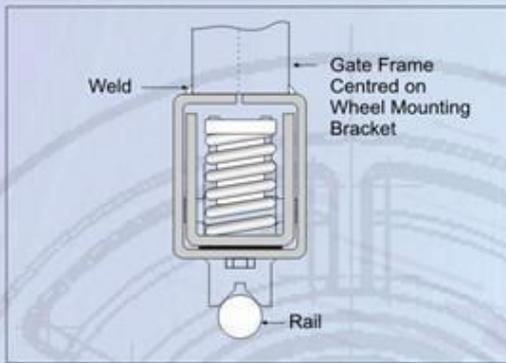

fig 1
- Position Wheel Assembly squarely on the underside of the gate frame and weld **Mounting Brackets** in place (refer fig 1).